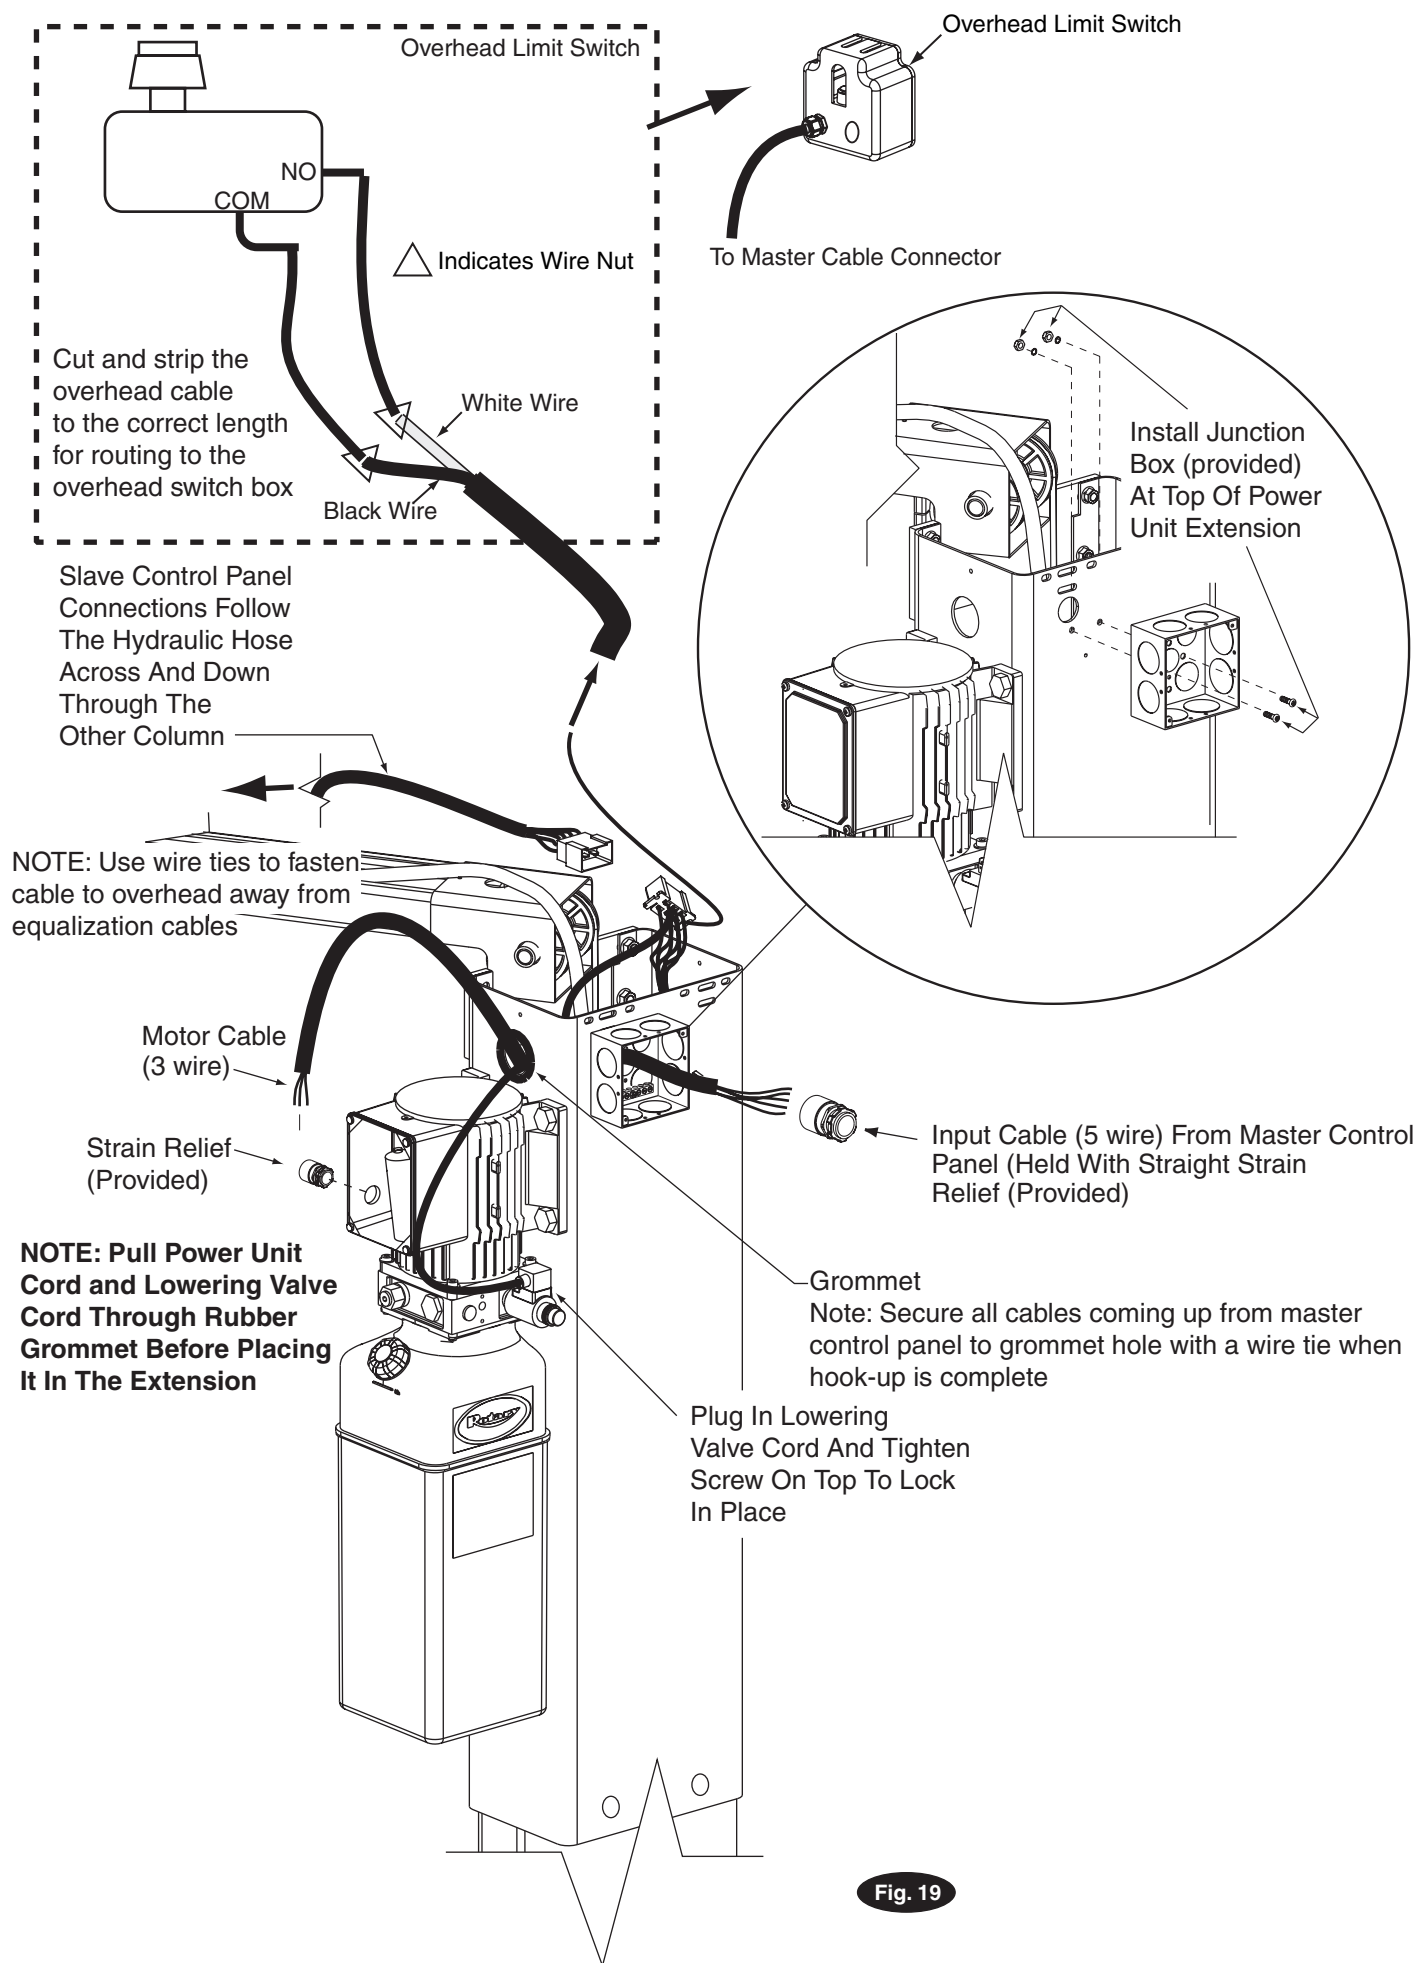

Fig. 19
- A) Attaching junction box: Attach junction box (provided) onto power unit column with two #12-24NC x 3/4" Lg. PHMS, washers, and nuts, Fig. 19. Install grounding block (provided by installer) into junction box.
- F) Route input cable multi-conductor cord through strain relief (provided) and junction box, Fig. 19.
- G) Locate the overhead switch cable at the master cable connector. Feed the overhead switch cable through the strain relief and into the overhead switch box. Cut the wire to the correct length, strip and terminate it to the overhead switch with wire nuts, Fig. 19. Note: The wire length is long enough to service standard height, EH1, 2 or 4 models.
- H) Locate the lowering valve cable (attached to the master cable connector) and the motor cable. Place rubber grommet in top hole above the power unit and run the lowering valve cable (first) and motor cable (next) through the hole, Fig. 19.
- 18. Electrical:** Have a certified electrician run appropriate motor voltage to lift, Fig. 19. Size wire for 20 amp circuit. See Motor Operating Data Table.